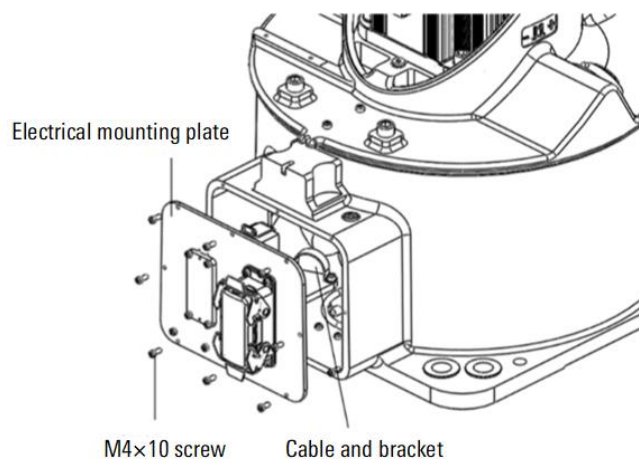

Figure 12-2 Base internal cable
- Step1. Remove the electrical mounting plate as shown in Figure 12-2, and pull out the internal cables of base.